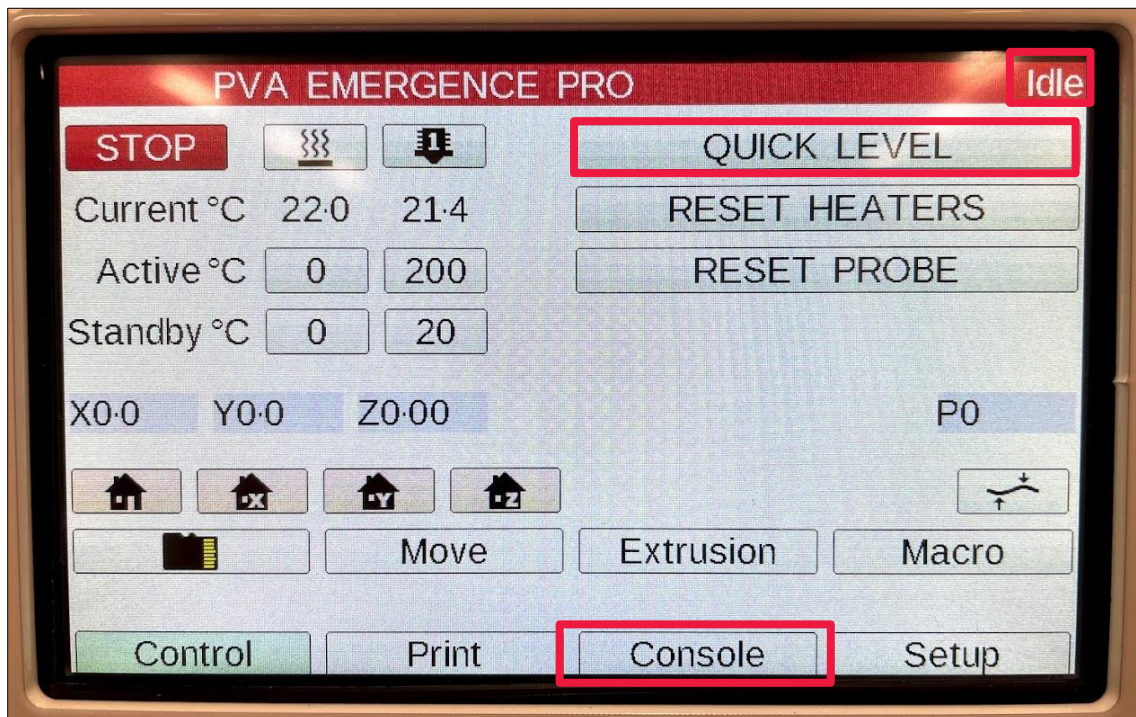
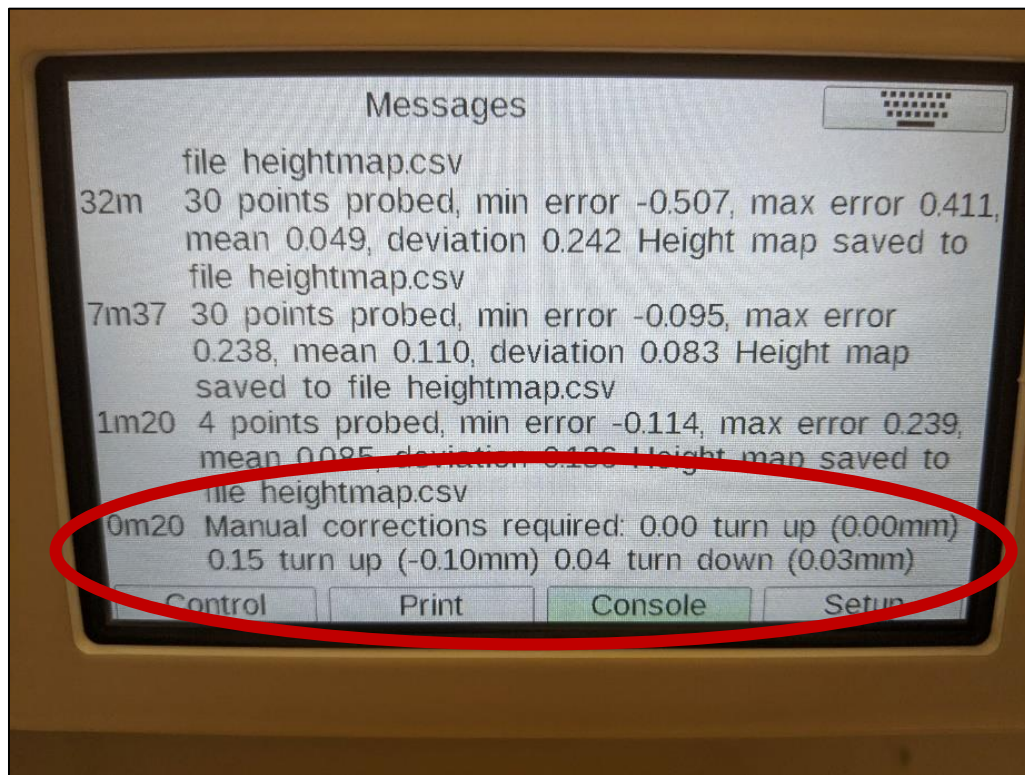

Figure 16: Quick Level
Figure 17: Leveling Values Displayed
1. Check the status on the Printer Control Screen in the upper right corner. It should say **Idle** (Figure 16).
3. On Printer Control Screen, select **Quick Level** on the right side of the display (Figure 16).
- On Printer Control Screen, select **Console** (Figure 16) and a message will be displayed (Figure 17).
- The **second value** will be the amount of adjustment required for the **left leveling screw**; 0.15 turn up (-0.10 mm) in Figure 17.
- The **third value** will be the amount of adjustment required for the **front right leveling screw**; 0.04 turn down (0.03 mm) in Figure 17.